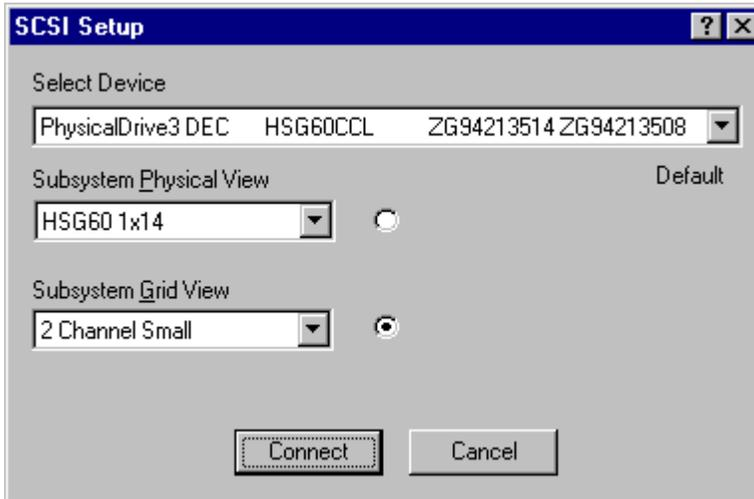

Figure 1-6. SCSI Setup window
- When the Connection Selection dialog box displays, select the *SCSI* option. The SCSI Setup window appears, as shown in Figure 1-6.